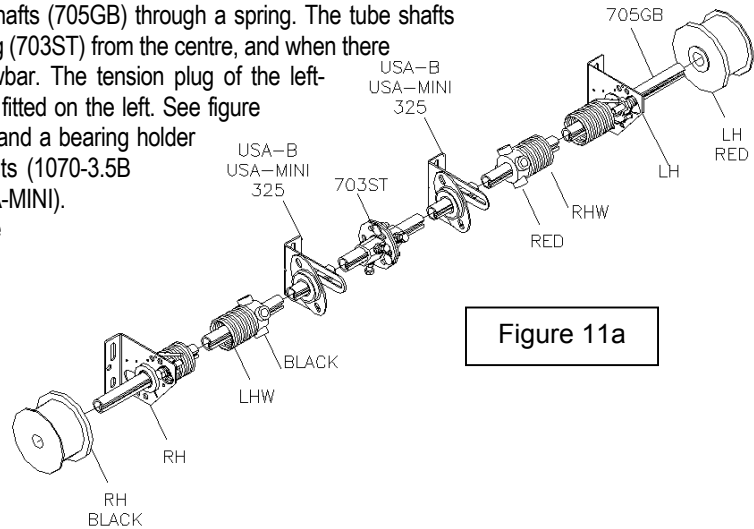

Figure 11a
Slide each of the two keywayed tubular shafts (705GB) through a spring. The tube shafts are of unequal lengths to avoid the coupling (703ST) from the centre, and when there is an electric drive, sitting under the drawbar. The tension plug of the left-wound plug is coded black and should be fitted on the left. See figure 11a. Fit to both shafts a bearing (USA-B) and a bearing holder (325) each with 2 M8 press bolts and nuts (1070-3.5B and 1068M) to the bearing plate (USA-MINI). Then fit disassembled halves of the coupler (703ST) with a cotter (711A-38).